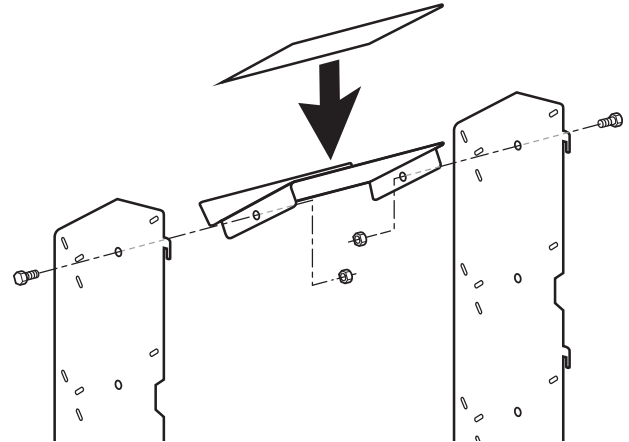

Figure 4-9
- Assemble the Angled Tray assembly as shown in Figure 4-9. Use eight M8 x 16 Hex Flange Bolts (item #5) and eight M8 Flanged Nylock Hex Nuts (item #2) to attach the Angled Trays (item #8) to